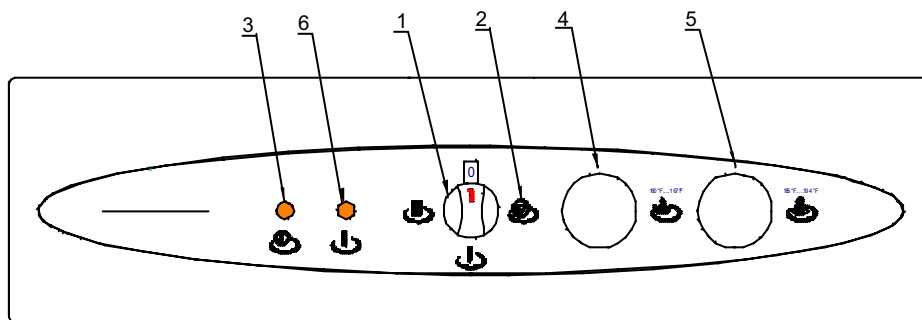

Fig.8
Set the selector (1), (fig.8), to the preparation position (∇) (2). The pilot light will come on (3) and the wash and rinse water will start filling the machine. Rinse (booster) elements will come on before finishing the fill (Pressure switch: P11), heating up the water in the booster. Once fill is completed (Pressure switch: P12) the wash (tank) element will come on, heating up the water in the tank and maintaining it at the proper temperature.
- Selector set to position (I), slow speed for a more intense wash. (Fig.8)
- Selector set to position (II), fast speed to wash less dirty crockery. (Fig.8)
- Turn the switch to position “0” to turn the machine off (Fig. 8).